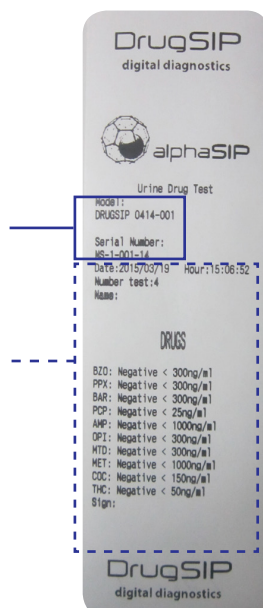

Figure 20. Urine DrugSIP® Cassette ticket
9. The test number will appear on the results print-out. This number must be written on the Urine Fluid DrugSIP® Cassette underneath the name of the person who has taken the test (Figure 20). The printed ticket will show the following information: